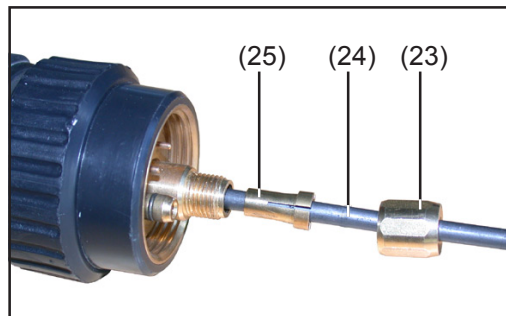

Fig.22 Clamping nipple and swivel nut
- Arrange clamping nipple (25) and swivel nut (23) with integrated O-ring on the new inner liner, as shown in Fig. 22 and tighten the swivel nut using a fork spanner with a span of 12 mm (.47 in.)
**NOTE!** Risk of damage to the screw thread! To avoid this, clean the clamping nipple (25) and swivel nut (23) before mounting them.